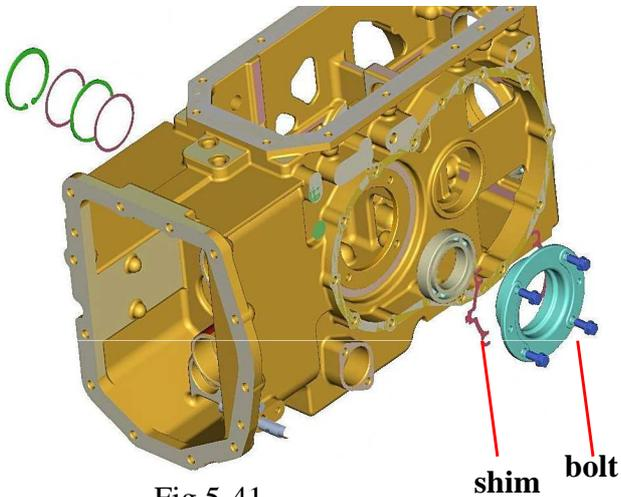

Fig.5-41
b. Dismount diff-case (RH) and diff-case Metal (LH) by installing push bolt as shown in Fig.5-41